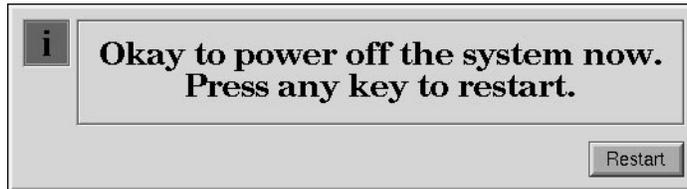

Figure 1-1 Okay to Power Off Notifier
- After a few seconds, you see the message shown in Figure 1-1.